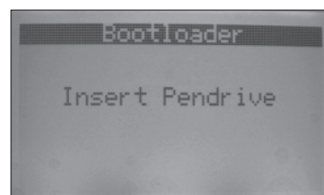

Figure 14 – Screen shot displayed when the RU is available to accept the application firmware file.
- Press Exit key, followed by Power key, to enter Bootloader function. A screen shot will then appear as in Figure 14.